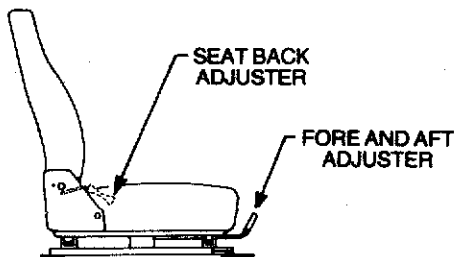

Figure 1-15 Seat adjustment
Cabin seating (Fig. 1-15)
84. The cabin seating is adjustable as illustrated in Fig. 1-15. The passenger's seat cushion must be removed to gain access to the battery.